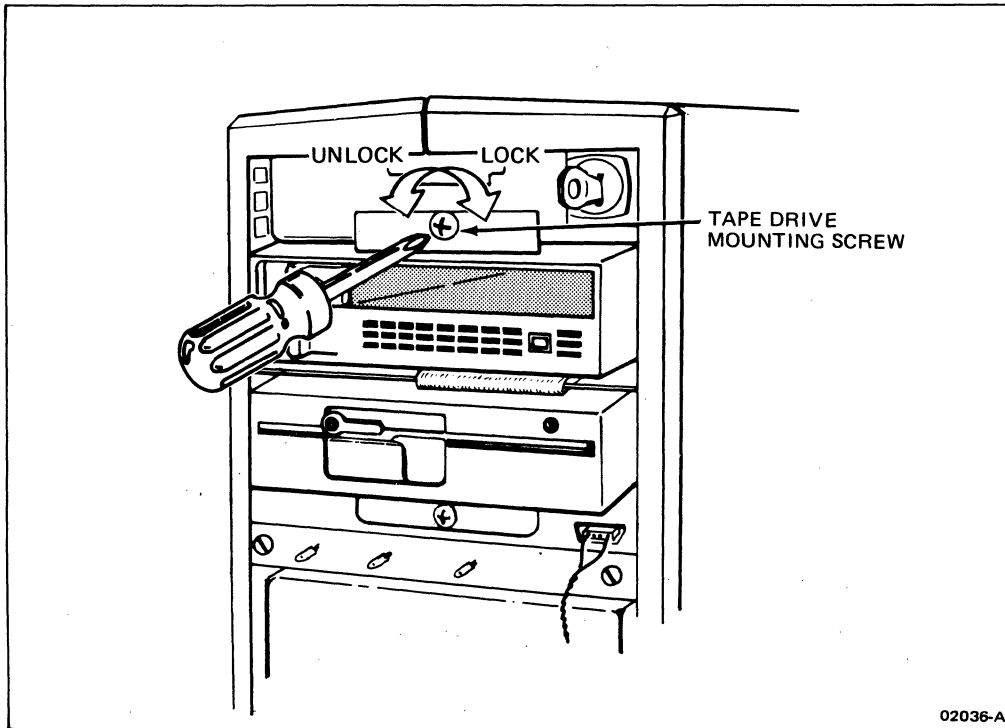

Figure 6-3. Locking/Unlocking the Tape Drive Mounting Screw
Perform the following procedure to remove the cartridge-tape drive (see Figures 6-3 and 6-4):
3. Use a #2 Phillips screwdriver to turn the screw on the drive mounting bracket a quarter-turn counterclockwise as shown in Figure 6-3.
Perform the following procedure to replace the cartridge-tape drive (see Figures 6-3 and 6-4):
8. Use a #2 Phillips screwdriver to press in and turn the locking screw a quarter-turn clockwise as shown in Figure 6-3.